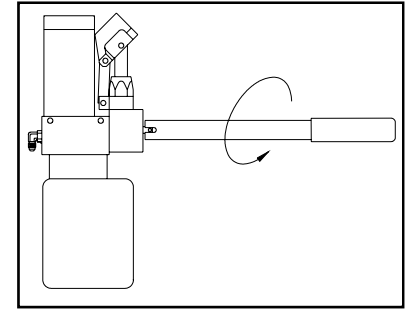

FIGURE 2-10: DEPLOY OR LOWER PLATFORM
- 3) Refer to **Figure 2-10**. Turn valve 1/4 turn COUNTER-CLOCKWISE to begin lowering platform. When platform reaches vehicle interior floor level turn valve CLOCKWISE to close; DO NOT OVER-TIGHTEN VALVE. Do not lower platform below vehicle floor level. The rear edge of inboard rollstop must rest flat against vehicle floor.